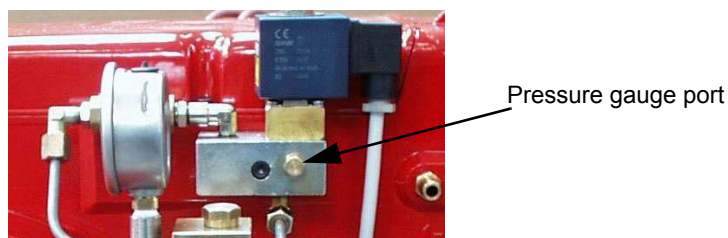

Fig. 17 - Light oil manifold
- 9 the nozzle supply pressure is already factory-set and must not be changed. Only if necessary, adjust the supply pressure as follows (see related paragraph); insert a pressure gauge into the port shown on Fig. 17-Fig. 16 and act on on the pump adjusting screw **VR** (see Fig. 16) as to get the nozzle pressure at 20bar (Bergonzo nozzles - see diagram on Fig. 10).